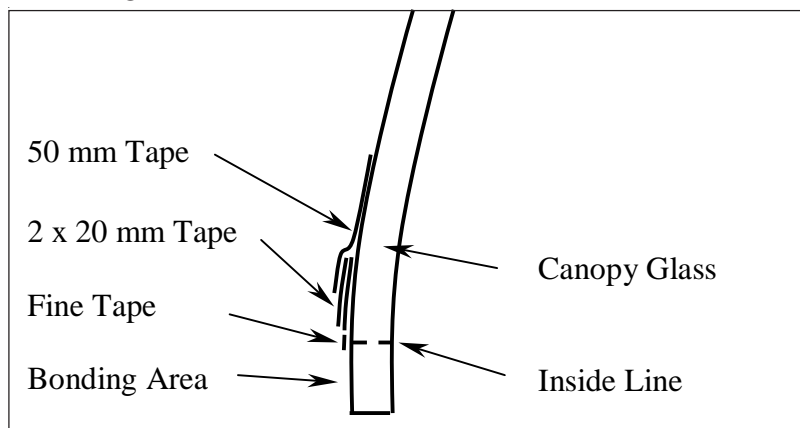

Figure 4 Canopy Tape Markings
- 10 For protection purposes, place 3 layers of tape as depicted in figure 4.